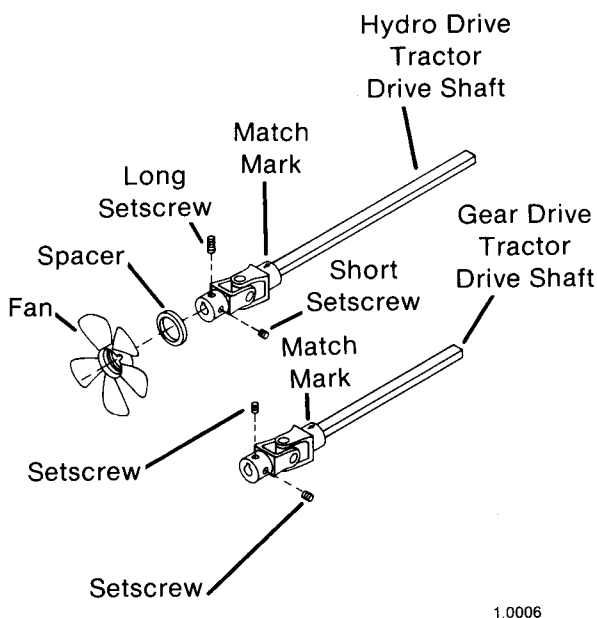

FIG. 33
- B. (Gear Drive Tractors Only) Loosen two setscrews on rear of drive shaft. (Fig. 33)
(Hydro Drive Tractors Only) Remove one long setscrew thru notch in fan hub on rear of drive shaft. Rotate fan to expose second short setscrew, loosen setscrew. (Fig. 33)
NOTE: Drive shaft is a balanced assembly and **must** be reassembled the same it was removed. Match marks (arrows) are stamped into both front and rear universal joints, if chalk marks are not made, to insure proper reassembly. (Fig. 33) If drive shaft is damaged or out of balance and requires replacement, it **must** be replaced as a complete assembly. A complete replacement would include the front universal joint attached to the engine.